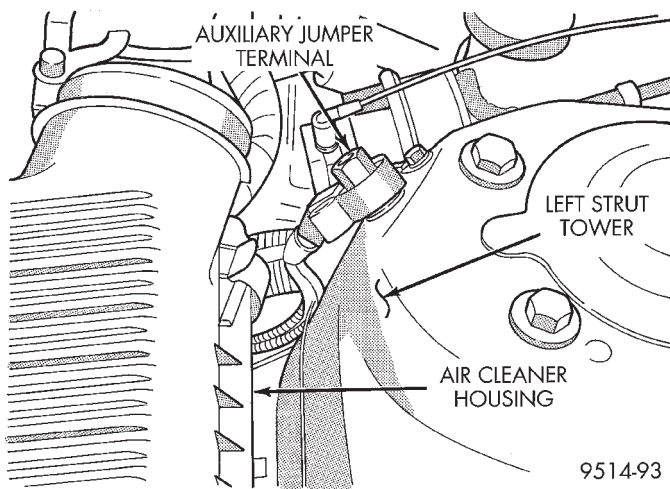

Fig. 88 Auxiliary Jumper Terminal
- (1) Disconnect negative cable from auxiliary jumper terminal (Fig. 88).